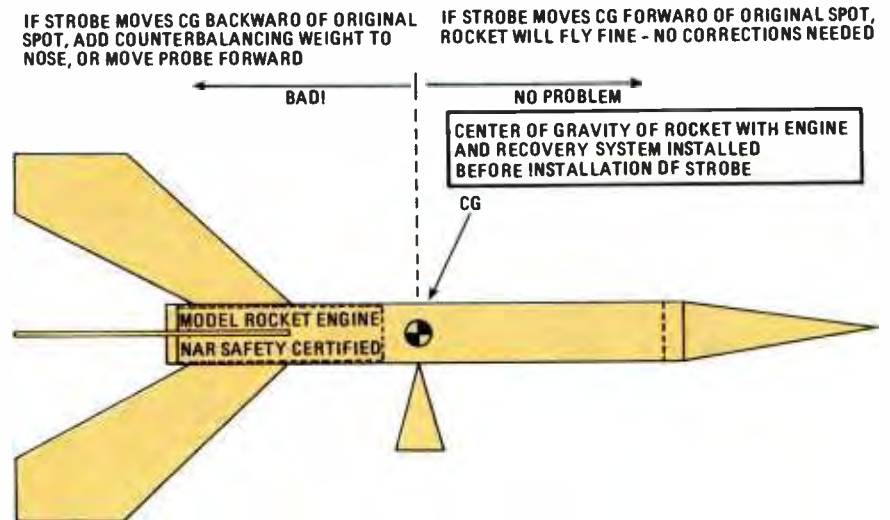

Fig. 6. If the electronics are forward of the model's center of gravity, the rocket should fly fine with the added weight.
If the electronics are ahead of the model's center of gravity (CG), the rocket should fly fine with the added weight. If, for some reason, you locate the electronics or battery behind the rocket's CG, a counterbalancing weight must be added to the nose to bring the CG back to its normal position. A rocket's CG is determined by its balance point with an unused engine installed. (See Fig. 6.)